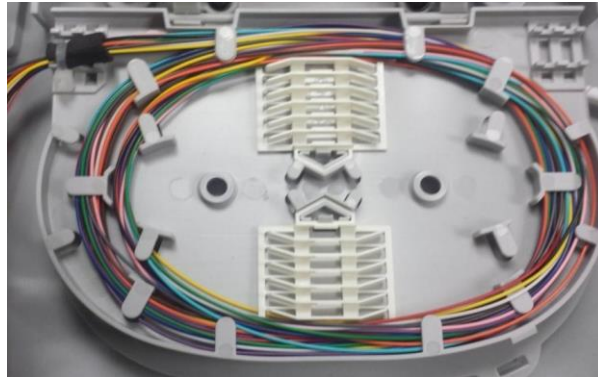

Fig. 34
3.8.5. Take the fibers to the splice tray. Use the foam tape to protect the fibers and secure the fibers in the splice tray (Fig.34)